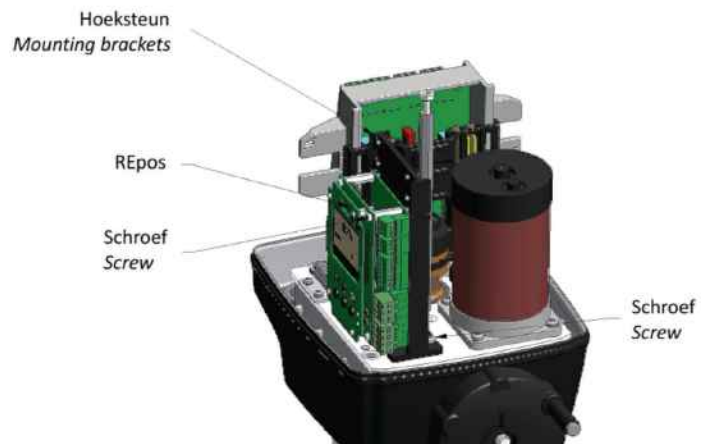

Fig 13
- *The REpos mounts to the bracket with four fixing screws and onto the motor sheet with four fixing screws (Fig. 13).*